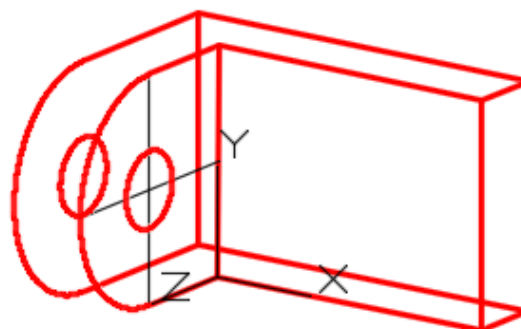

Figure Step 13
Step 13 Set the current UCS to Front and then locate it to the corner as shown in the figure. (Figure Step 13)